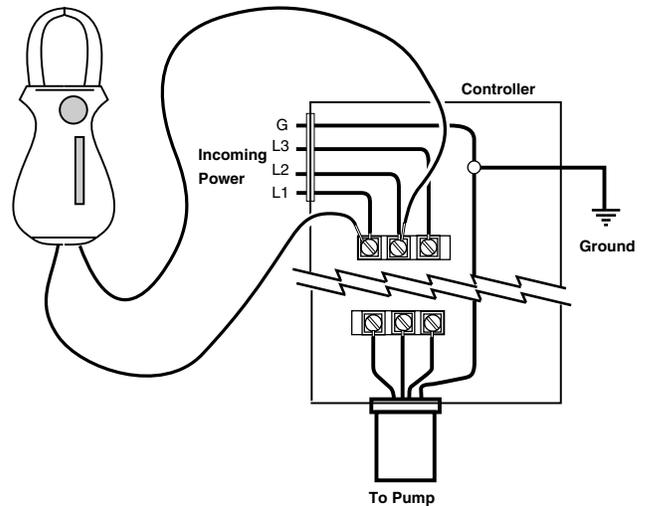

Figure 12 - Voltage Test
2. Connect power and start pump (Figure 12). For 3-phase motors, read voltage across three pairs of leads (L1 – L3, L3 – L2, L2 – L1) while pump is operating. For single phase motors, read voltage across L1 and L2 while pump is operating. Voltage should be within ±10% of motor nameplate rated voltage. If not, consult power company.